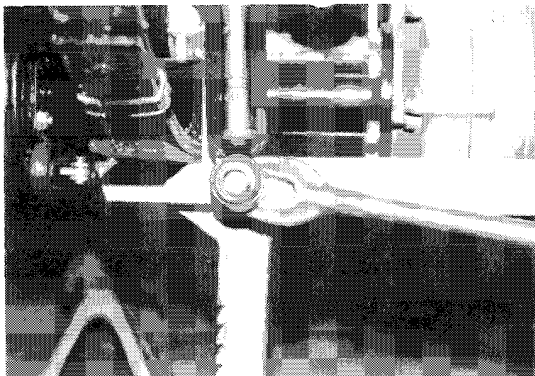

Figure 6-9
4. Remove shock absorbers from lower mounts (Figure 6-9).